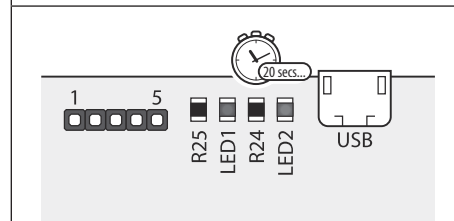

Fig. 40
5. After approximately 10 - 12 seconds both the red LED (LED1) and the green LED (LED2) will switch **ON** for approximately 20 seconds or so, as shown in **Fig.40**.